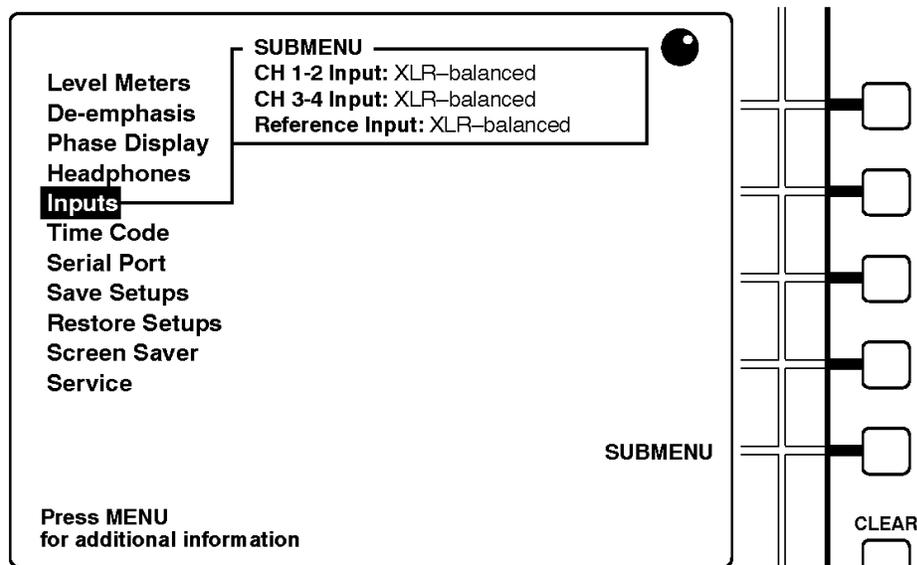
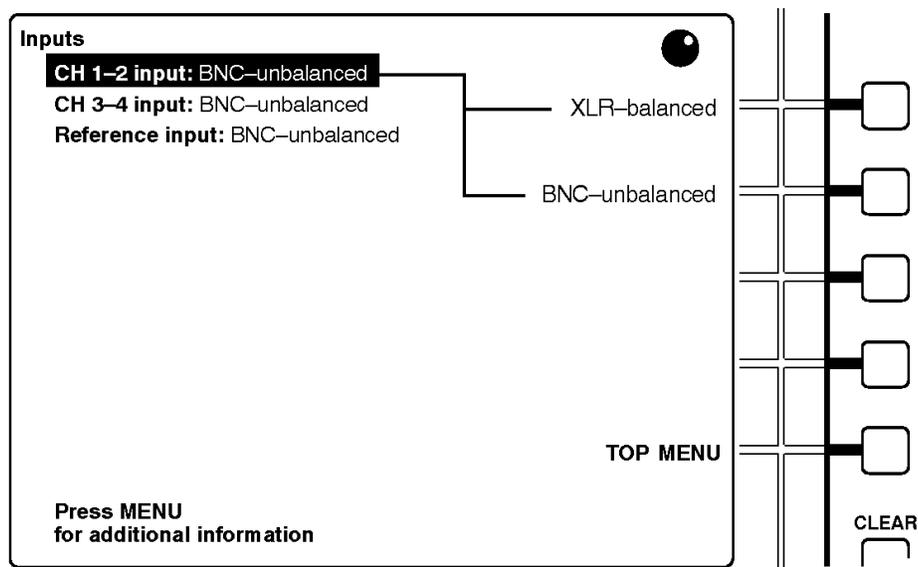

Figure 10: Selecting from the top menu
Figure 11: The inputs submenu
3. The knob icon appears in the upper-right corner of the display when the multi-function knob is active. Here, you may turn the knob to scroll among the TOP MENU choices. Turn the knob now to scroll the menu highlight to the “Inputs” entry, as shown in Figure 10.
4. The five buttons immediately to the right of the display are called soft buttons. The printed/molded lines to the left of these buttons serve to associate the buttons with on-screen menu choices or functions. In Figure 10, the bottom soft button is associated with the SUBMENU function, but you can press *any* soft button to enter the Inputs submenu.1 After you do, the display resembles Figure 11.